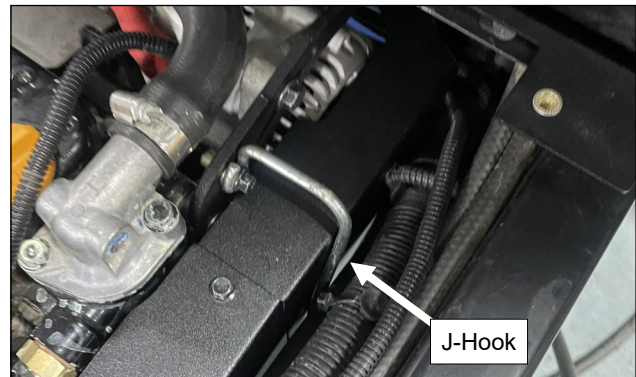

Fig. 9.4 J-Hook
- 9.4 Per fig. 9.4, reinstall J-hook to support coolant hoses and harnesses. (removed during step 1.21).